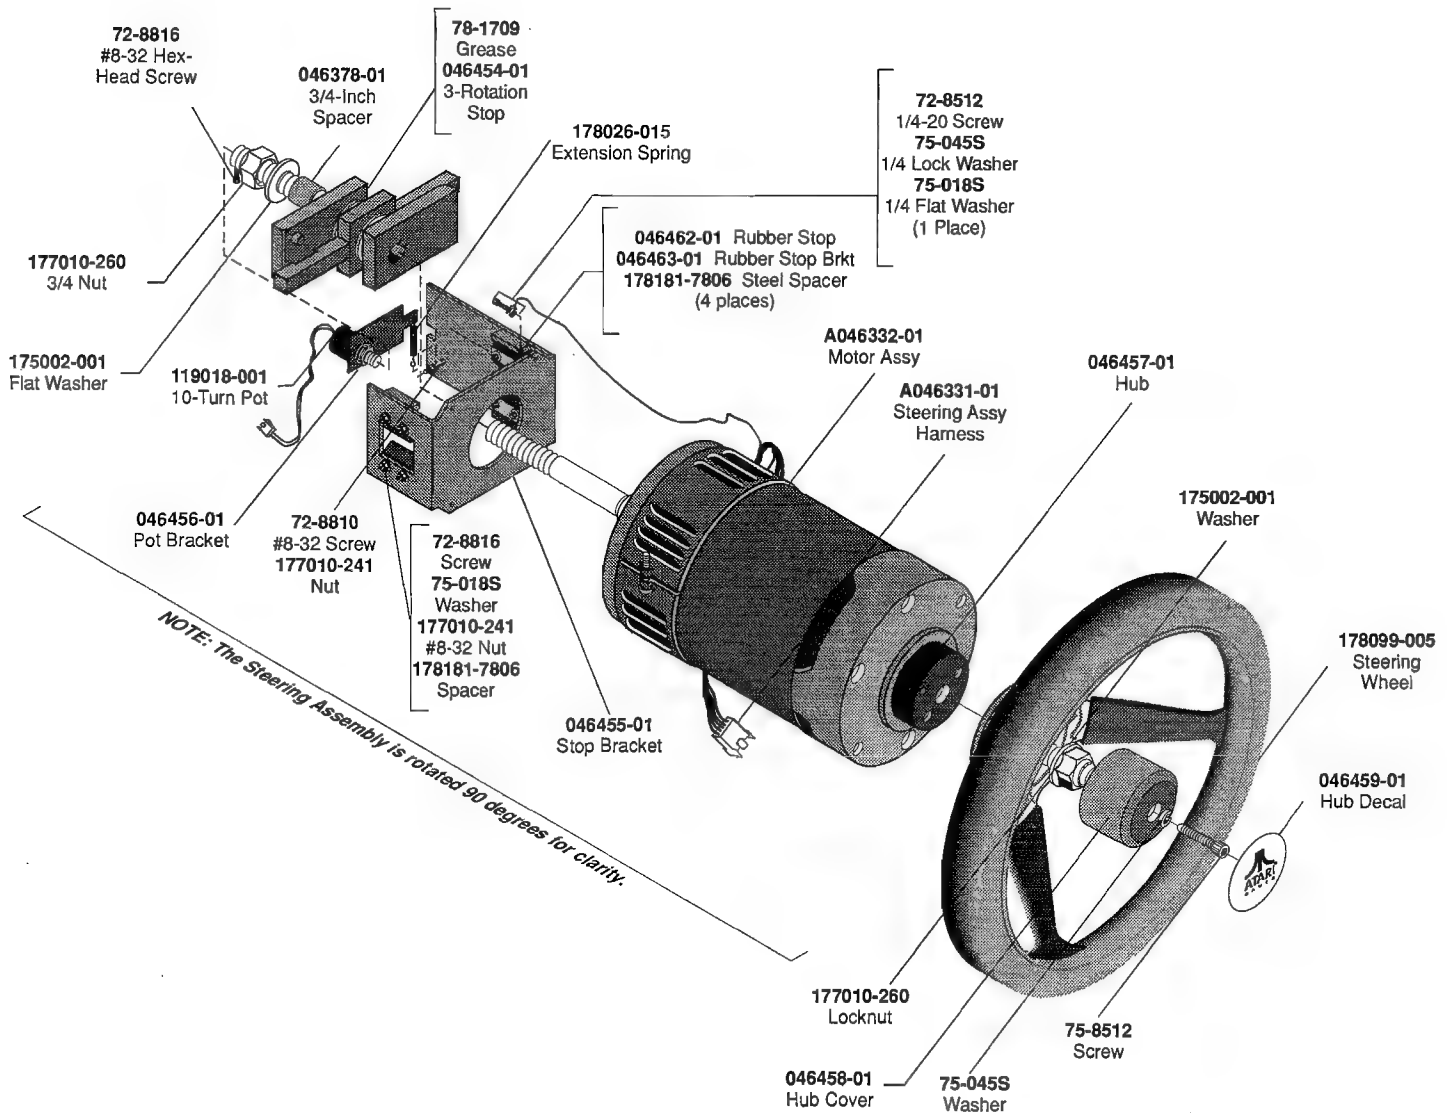

Figure 3-5 Maintaining the Steering Wheel
2. Grease the large threads on the stop assembly. See Figure 3-5.
2. The steering wheel is illustrated in Figure 3-5. Loosen the set screw that holds the potentiometer shaft in place. Remove the nut that holds the potentiometer in the potentiometer bracket. Take out the potentiometer. If the small spring that holds the potentiometer bracket on the stop bracket is broken, replace it too.
2. The steering wheel is shown in Figure 3-5. Do not take the steering assembly off the dashboard yet.
23. Install the steering wheel on the steering hub. Make sure the hole in the steering wheel goes over the alignment stud on the hub. (See Figure 3-5.)